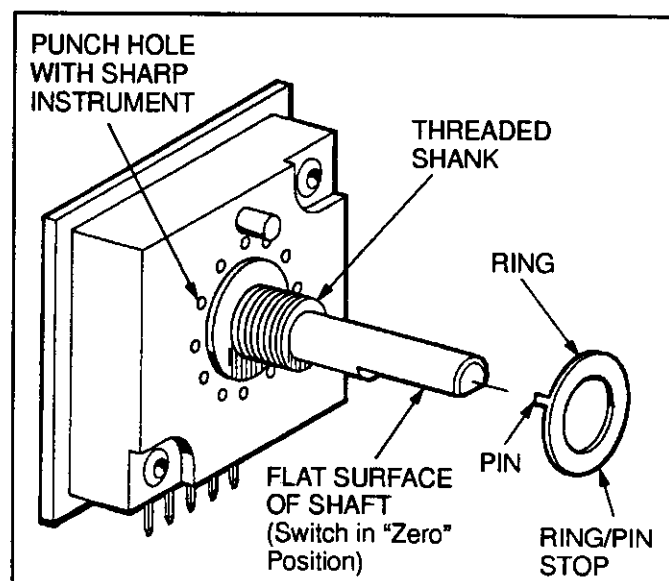

Fig. 5
2. Rotate shaft until flat is opposite anti-rotation post as shown in Figure 5. This places the switch in the "0" position in accordance with industry standards.
a. **One Stop** – Align ring/pin stop with shaft so pin is facing switch, then slide ring over threaded shank and insert pin into stop pin hole. See Figure 5.